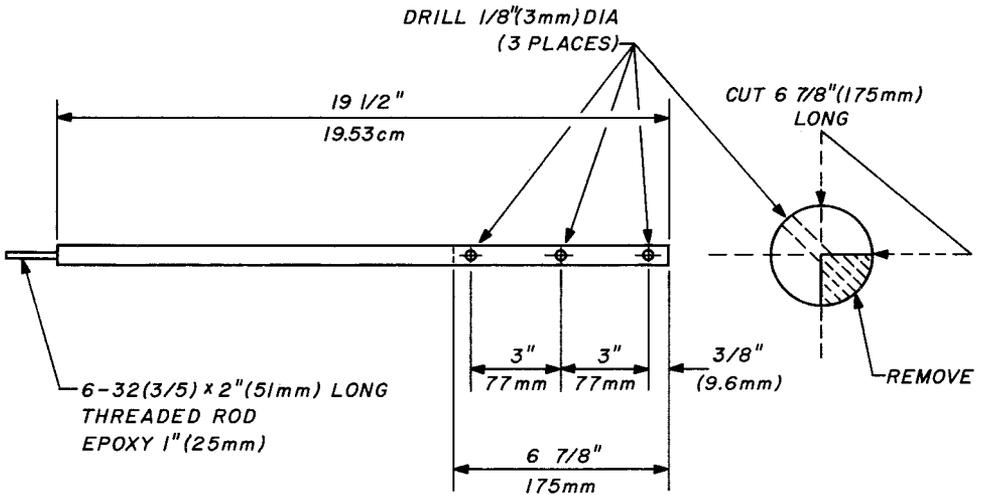

Figure 11-12.
time (with three coats of white *Hobbyoxy* on them) without significant warping or bending. I recommend the ½-inch (12.5-mm) diameter dowels for standoff supports. Dimensions for the 13-inch (332-mm) long standoffs are given in *Figure 11-12*.
1. Use a coping or jig saw to quarter the first 6-⅞ inches (175 mm) of each standoff dowel as shown in **B** of *Figure 11-12*. Remove one of the quarters with an *Exacto* knife or thin-blade pocket knife.